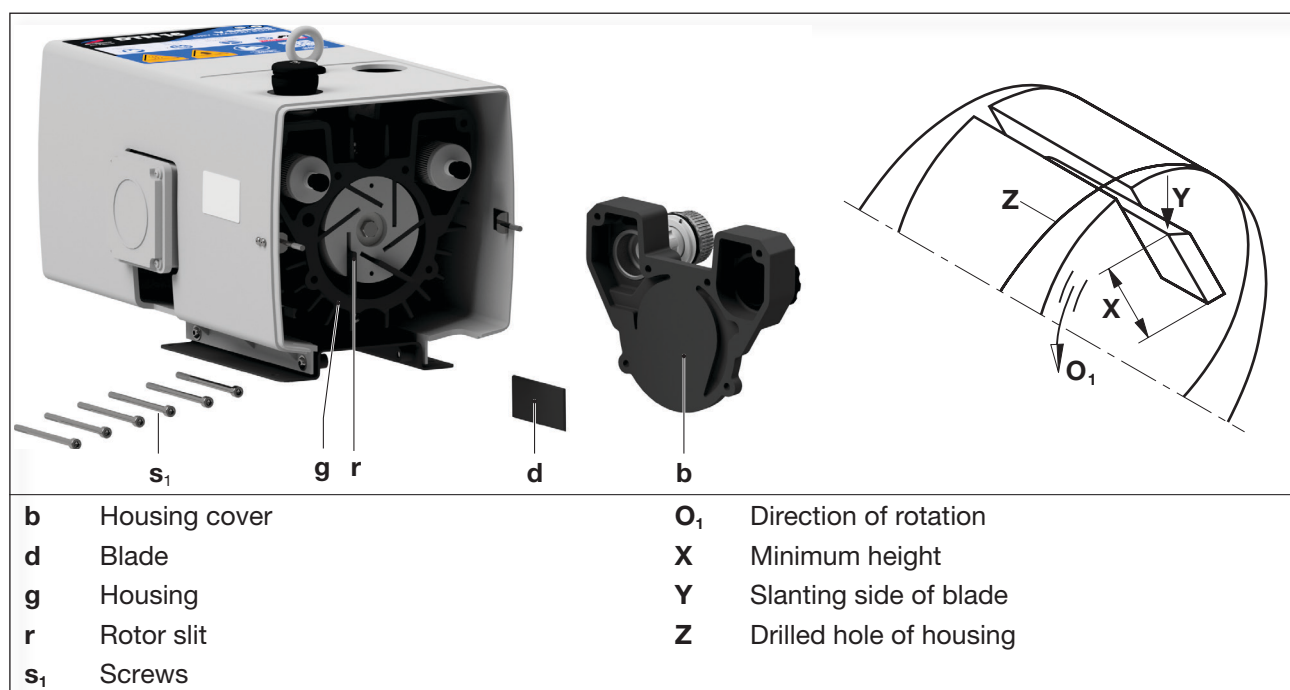

Fig. 5 Replacement of blades
- Undo six screws (Fig. 5/s1) on the housing cover (Fig. 5/b) and remove the housing cover.
- Take out all blades (Fig. 5/d) for checking.
The height of the blades must be at least (Fig. 5/X):
- Blow off the housing (Fig. 5/g) and the rotor slits (Fig. 5/r).
- Insert all blades (Fig. 5/d) into the rotor slits (Fig. 5/r). While doing this make sure that the blades with the sloping side (Fig. 5/Y) point outwards and the direction of rotation (Fig. 5/O1) matches with the direction of the drilled hole for the housing (Fig. 5/Z).
- Mount the housing cover (Fig. 5/b) with the six screws (Fig. 5/s1).